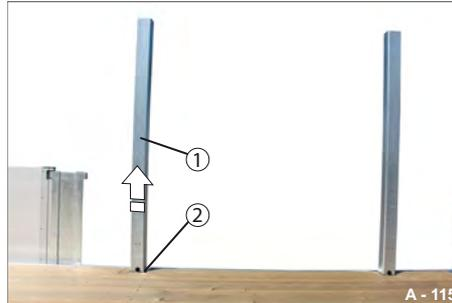

Fig. 170 Removing the slot-in post
- ▶ Lift the slot-in post (Fig. 170/1) out of the post pocket (Fig. 170/2).